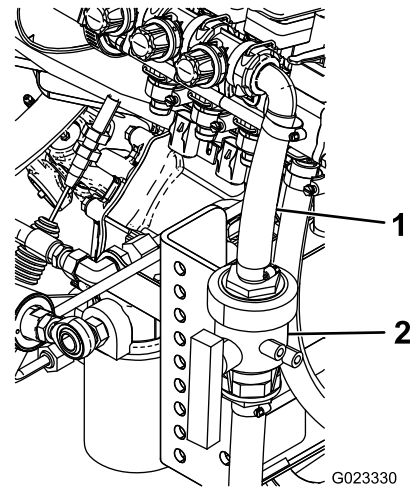

**Figure 11**
9. Secure the R-clamp to the rear stabilizing bracket using the existing bolt and nut (Figure 11).